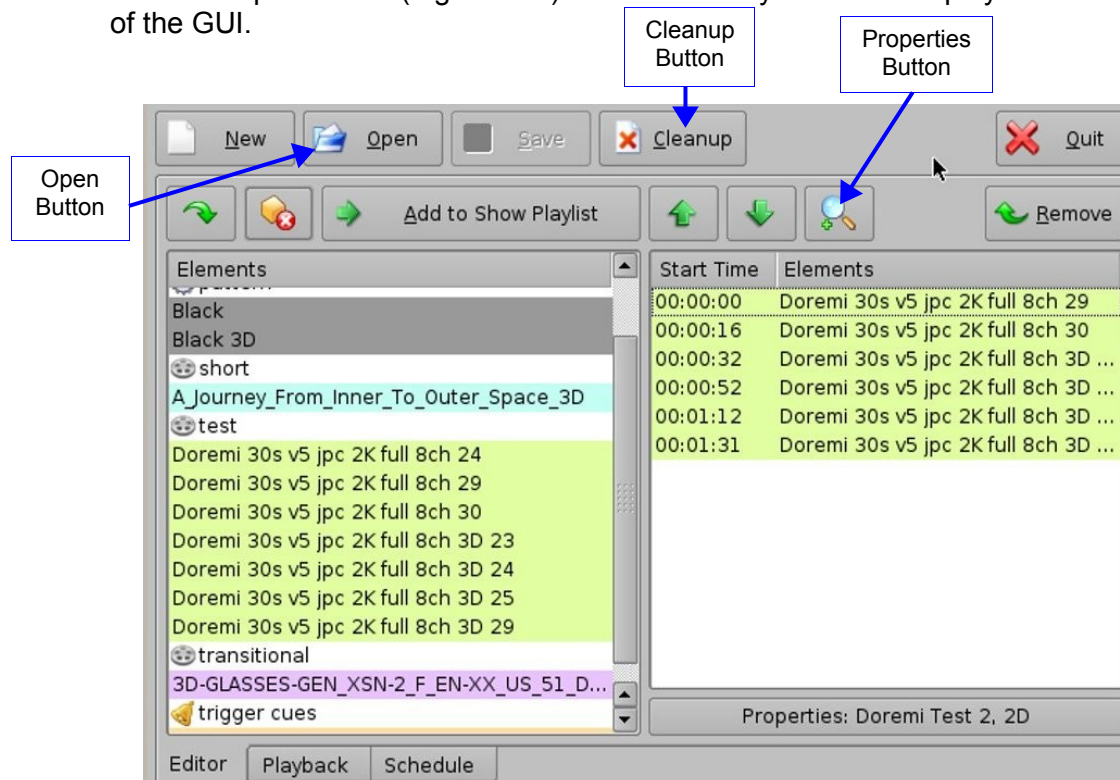

Figure 166: CineLister GUI – Editor Tab
- To open an existing Show Playlist, click on the Open button from the CineLister Editor tab (Figure 166). A new window will appear allowing the user to select the desired CPL.
- Click on the Open button in the CineLister Editor tab (Figure 166).
- The SPLs content will be displayed on the right side of the GUI (Figure 166).
- To view the properties of a particular CPL, double-click on the CPL or select it and click on the Properties button (Figure 166).